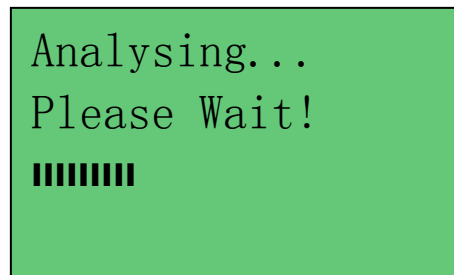

Figure 33
6. Press  key again and it will start analyzing (Fig. 33)